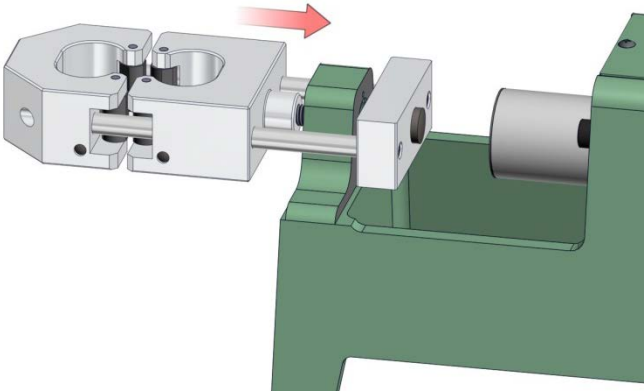

Figure 5.5.2
2. Gently slide the boss and set screw at the rear of the Right Tooling Jaw (Item 2, Figure 5.5.1) through the hole in the Base of the Universal Strength Machine. See Figure 5.5.2 below.